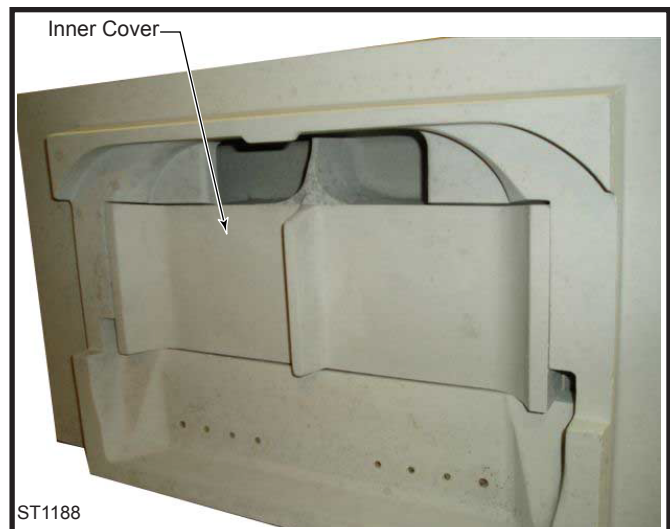

Fig. 29 Remove inner cover.
2. Remove the inner cover by pulling it straight out. (Fig. 29)
(Refer to Figure 29, Page 19)